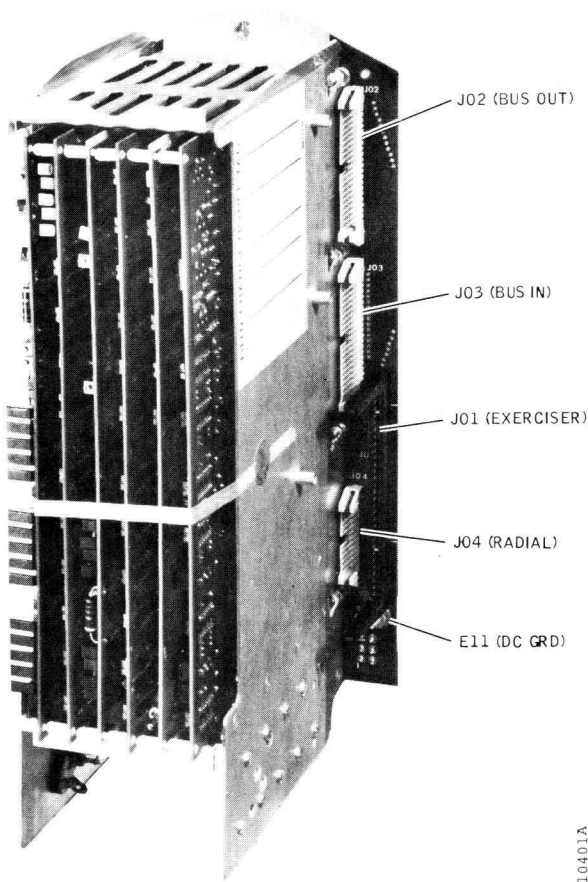

Figure 3-8. Unit Cable Connector Locations
2. Connect a bused signal cable between unit Busin connector J03 and Busout connector J02 of the preceding unit (or from the controller bus connector for Drive A). Connectors J02 and J03 are located on the backpanel of the card cage assembly (Figure 3-8).